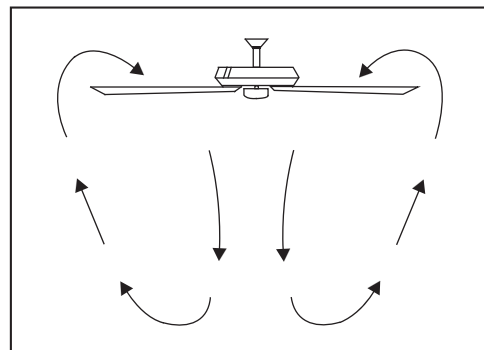

Figure 18
**Warm weather** - (Counter-Clockwise direction) A downward air flow creates a cooling effect as shown in Figure 18. This allows you to set your air conditioner on a higher setting without affecting your comfort.